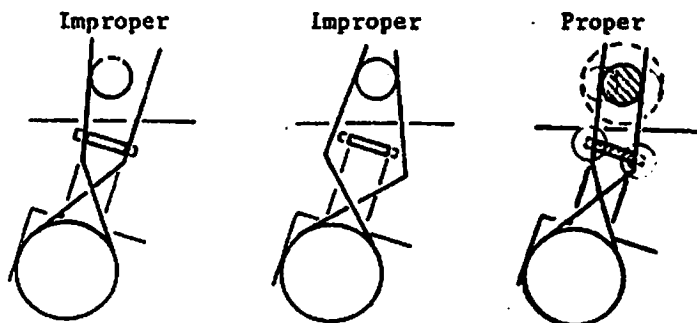

Fig. 140
- * Take care to keep both ends Spring parallel to each other when bending it as shown in Fig. 140.